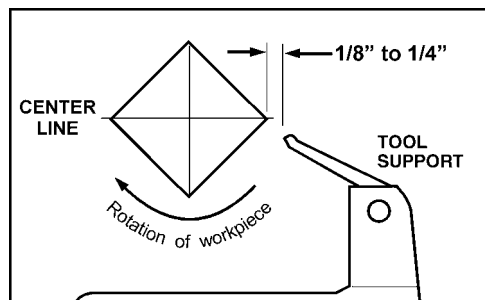

FIGURE 5
The tool support (shown in Figure 5), is designed to allow adjustment for height, position on the bed, and angle to the work. Your 4224 lathe comes standard with the 14" tool support. Other supports are available; consult the "Optional Equipment" list on page 24.
3. Move tool support into position. It should be parallel to the workpiece, just below the centerline and approximately 1/8" to 1/4" from the corners of the workpiece to be turned, as in Figure 5. Lock tool support to bed.